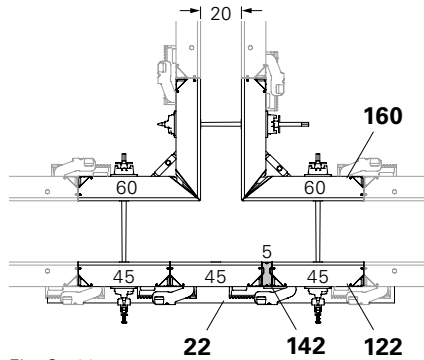

Fig. C5.03
- Wall thickness 20: Fig. C5.03